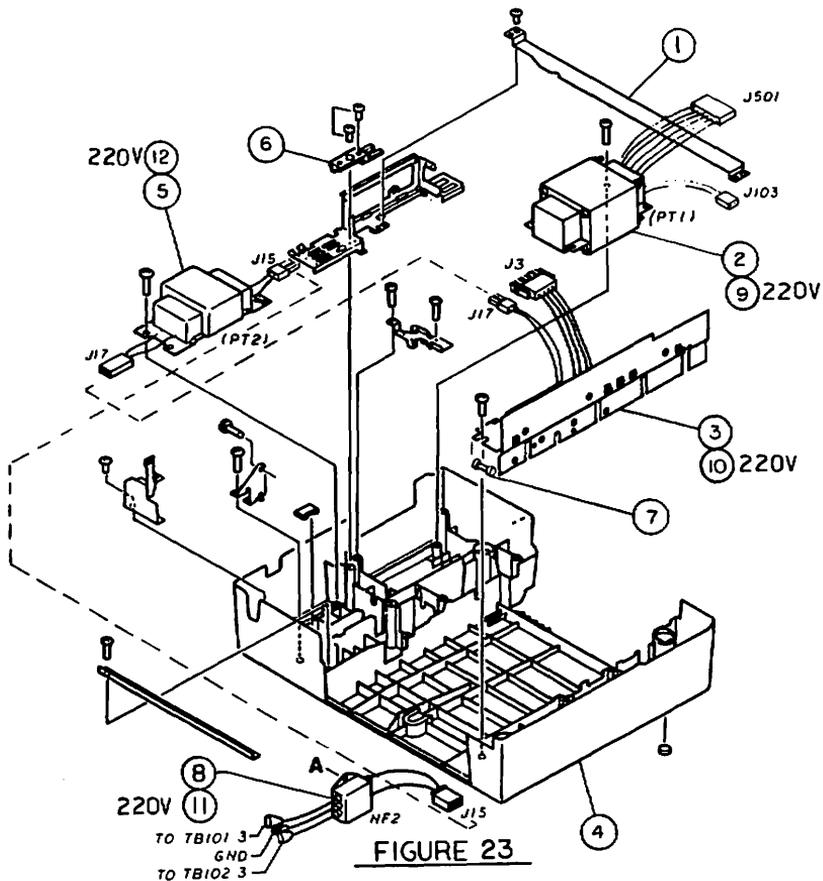

FIGURE 23
**LASERWRITER - PEDESTAL ASSEMBLY (Figure 23)**